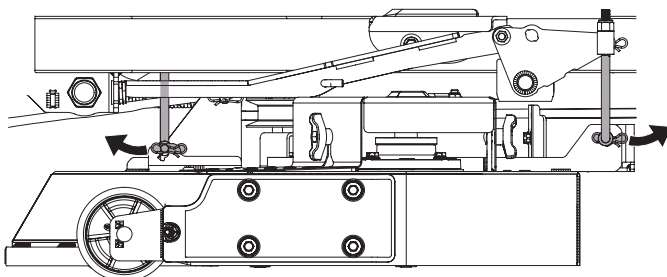

Figure 52
8. Remove the bow-tie pin from the bottom clevis end of each deck height adjust rod. There is one at the front and one at the rear on each side of the deck. See Figure 52 (left side shown).